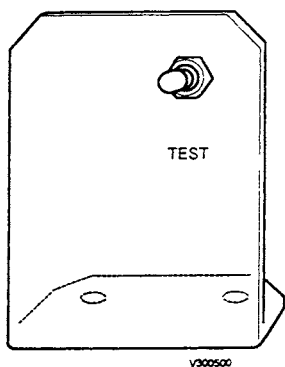

Figure 7: Test Switch Bracket
23. An optional Test Switch bracket (see Figure 7) is available through your distributor.